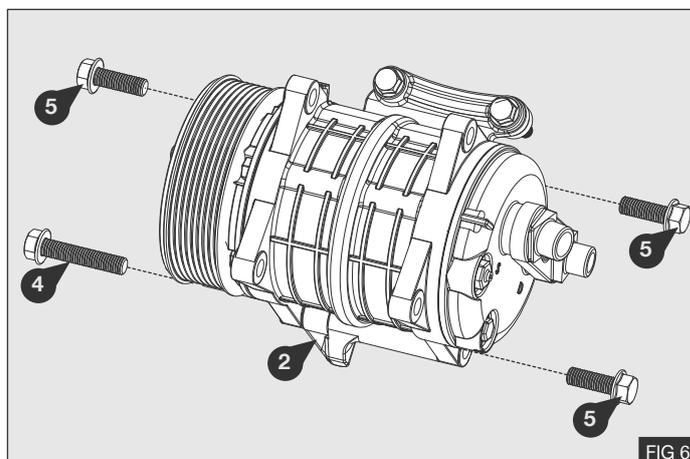

FIG 6
6. Fit the compressor to the mount bracket using top hat spacer ② between the front bottom compressor ear and the mount bracket ① - Fig 6
7. Secure the compressor using bolt ④ and bolts ⑤ - Fig 6
8. Torque bolts ④ and ⑤ to 84 Nm / 62 lb ft - Fig 6